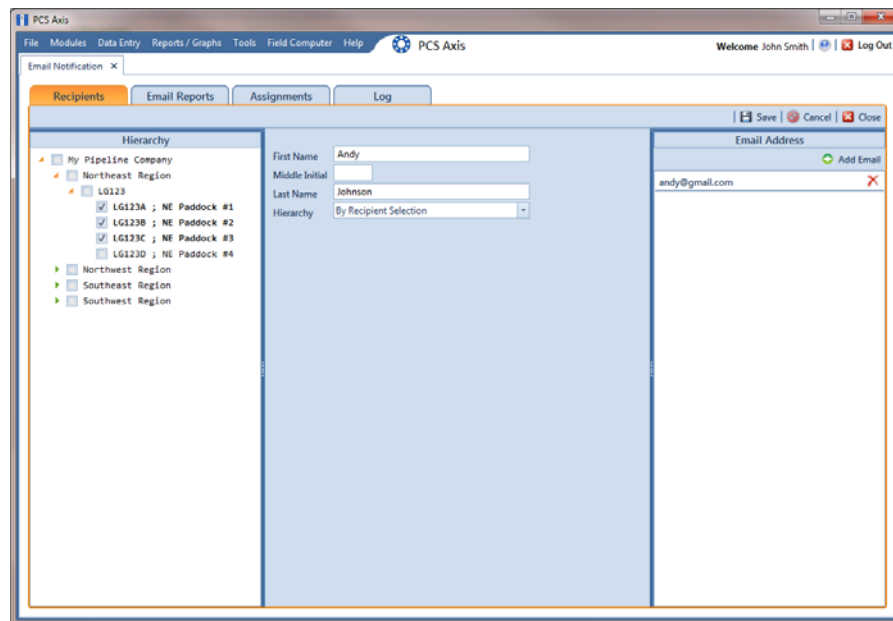

Figure 11-6. Recipients / External User
- 4 Click the toggle arrow  in the *Hierarchy* panel to view a list of pipeline segments in the hierarchy. Click the check box for each pipeline segment you want to assign to the user (Figure 11-6).
The *Email Address* panel displays all email addresses set up for a user selected in the center panel (Figure 11-6).